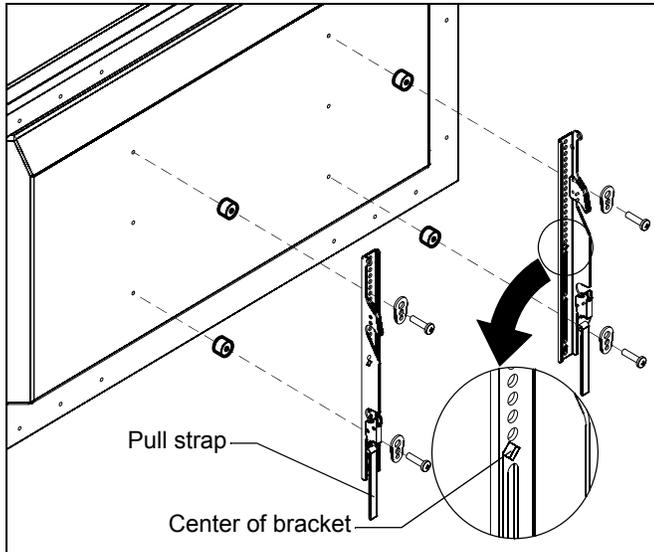

Figure 5
(See Figure 5)
2. Select correct screws, spacers (if necessary) and washers from the hardware bag (A-N) and attach brackets to back of screen. (See Figure 5)